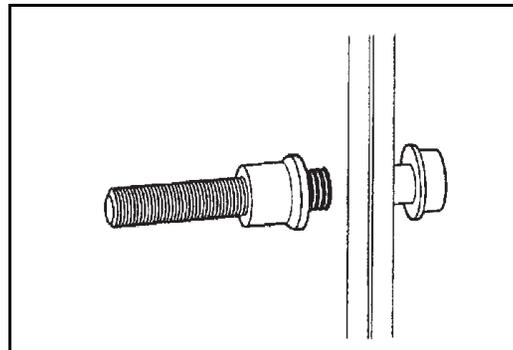

Figure 2.9 Place Collar Over Fastener Pintail 01\_0019
2. Place the collar over the fastener pintail (See Figure 2.9)